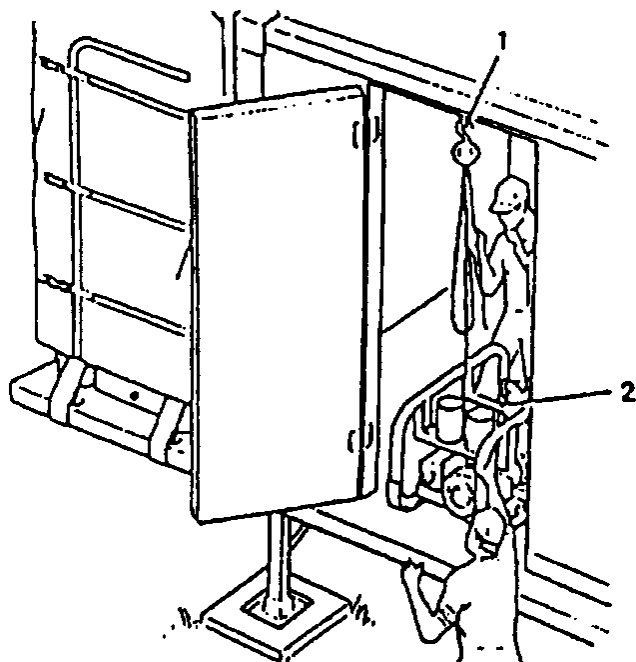

Figure 2-26. Unloading Distribution Pump
- (19) Remove two storage tanks (37).
- (20) Remove anchor (38), anchor rope (39), stool (40). Set stool aside.
- (21) Remove distribution pump (41) as follows:
- (a) Attach chain hoist to eyebolt (1, Figure 2-26).
- (b) Attach chain hoist to distribution pump eyebolt (2).
- (22) Install the second access ladder and hand rails on distribution side of van.